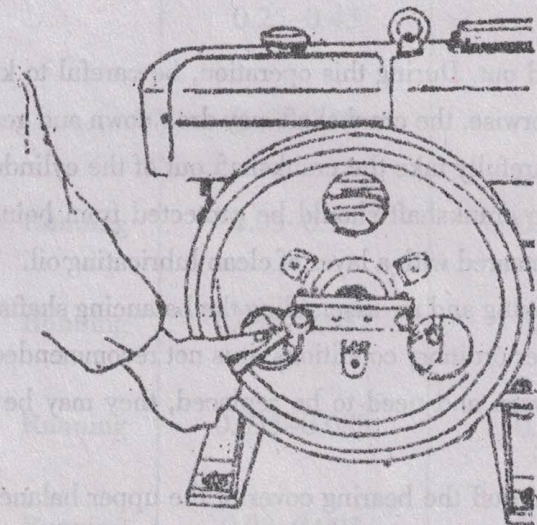
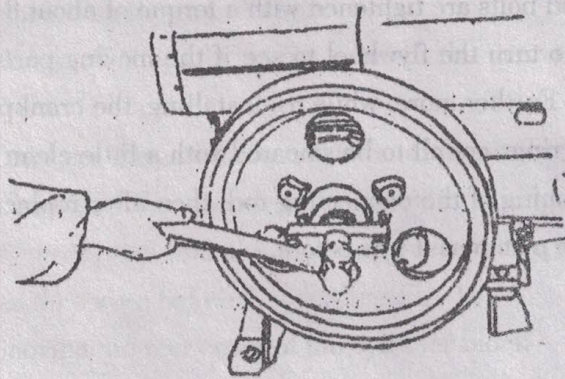

Fig. 20 Removing the flywheel by means of the puller
Fig. 21 Knocking the center of the bridge of the puller by means of a hammer
4. Pull out the flywheel by means of the puller. A hammer may be used to knock the center of the bridge of the puller if the flywheel is difficult to pull out (Fig. 20, Fig. 21).